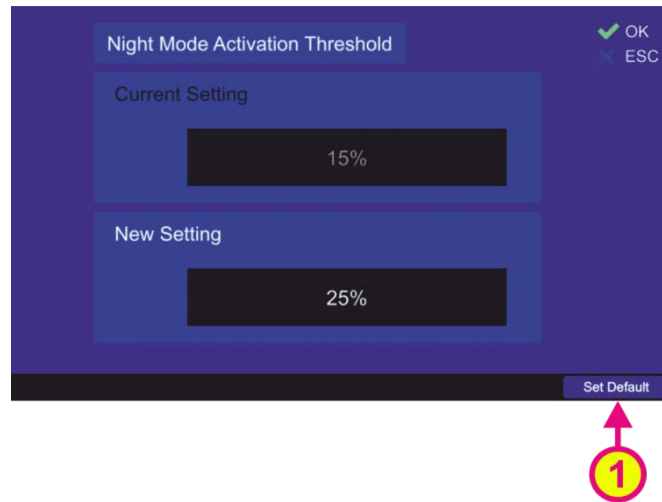

Fig. 105 Changing the value for the night mode activation threshold
Following dialog appears (s. Fig. 105).
- Use the “Set Default” hotkey (s. Fig. 105, position 2) to reset the value to the default value (15%).